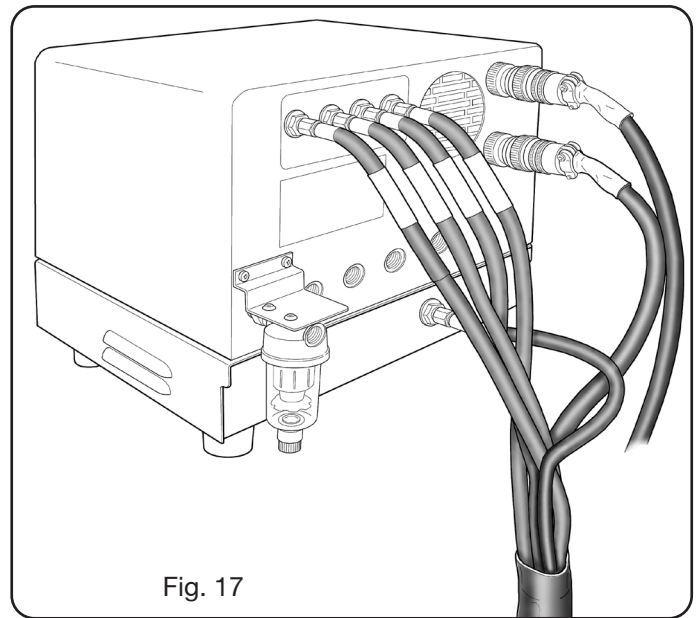

Fig. 17
- finally connect the connection art.1189 by screwing the electric connector onto the "POWER SOURCE" outlet (see the left part of Fig. 17).
- Connect the pipe bundle art.1166 by tightening the pipes to the relative gas outlets, being careful to ensure the markings correspond (plasma preflow, secondary preflow/cutflow and auxiliary; screw the electric connector to the outlet CN05 (see Fig. 17).
- Finally connect the connection art.1189 by screwing the electric connector onto the CN04 outlet (see Fig. 17). Make sure the air (AIR) is always connected, at adequate pressure, to the automatic gas console, as this is used as “service” gas.